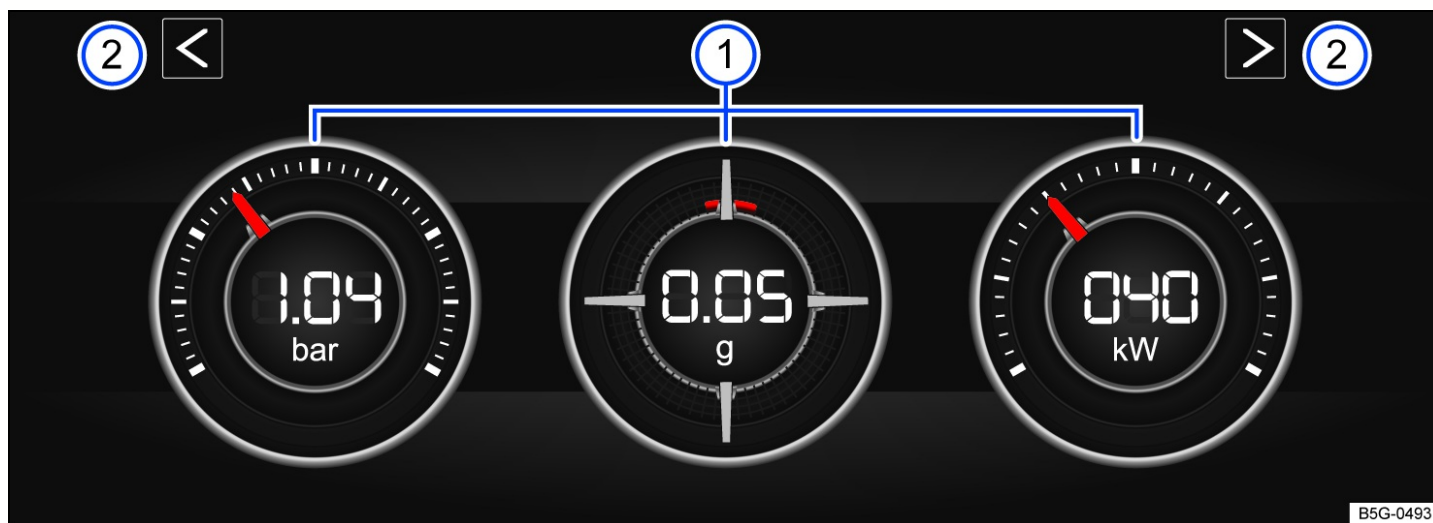

Fig. 21 On the Infotainment system screen: performance monitor.
If you want to switch between the performance monitor and the lap timer, tap one of the left or right arrow buttons above the instruments fig. 21.
The display can show a maximum of three instruments at the same time. Every instrument can be selected for any display area fig. 21 (left, center, right).
- **Boost pressure indicator:** the boost pressure indicator fig. 21 (left) displays the boost pressure between the turbocharger and the engine in bar. The farther the right that the needle on the scale is, the more engine power is being used.
- **Accelerometer (g-meter):** the accelerometer (g-meter) fig. 21 (center) displays the acceleration value in the center area in g. The red marking in the tab area shows the intensity of the acceleration and the direction of the force. The force in effect is contrary to the physical laws. For example, if you drive to the left, the red marking will move in the right area of the instrument and vice versa. When accelerating, the red marking will move downward. When braking, the red marking will move upward. The intensity of acceleration is indicated by the position of the red marking from the inside to the outside. If you accelerate faster, the red marking will disappear from the center area.
- **Power gauge:** the power gauge fig. 21 (right) shows the engine power that is being currently used as a digital value displayed on the surrounding scale in kW.